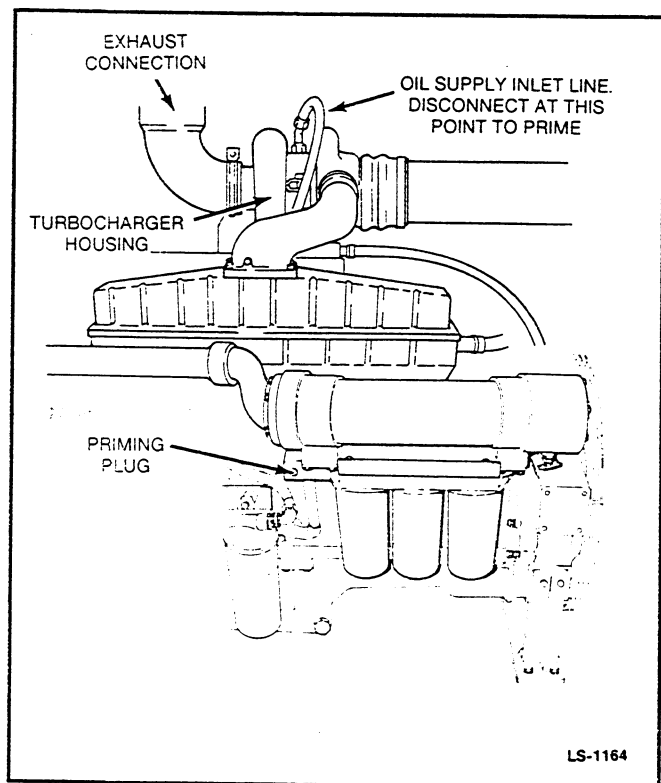

FIGURE 6-2. PRIMING TURBOCHARGER
Engine lubrication is drained prior to shipment. Before starting, fill and prime the lubrication system with oil as follows: (see Figure 6-2)
3. Remove plug from head of oil filter housing (see Figure 6-2) and connect a hand or motor-driven priming pump, equipped with pressure gauge, from a source of clean lubricating oil to the plug boss in filter housing.